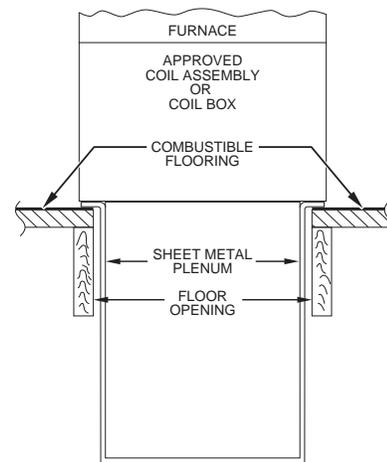

Fig. 11 – Furnace, Plenum, and Coil Assembly or Coil Box Installed on a Combustible Floor
4. If downflow subbase KGASB is used, install as shown (see Table 10). If Coil Assembly Part No. CNPV, CNRV, CAP and CNR or Coil Box Part No. KCAKC is used, install as shown (see Fig. 11).